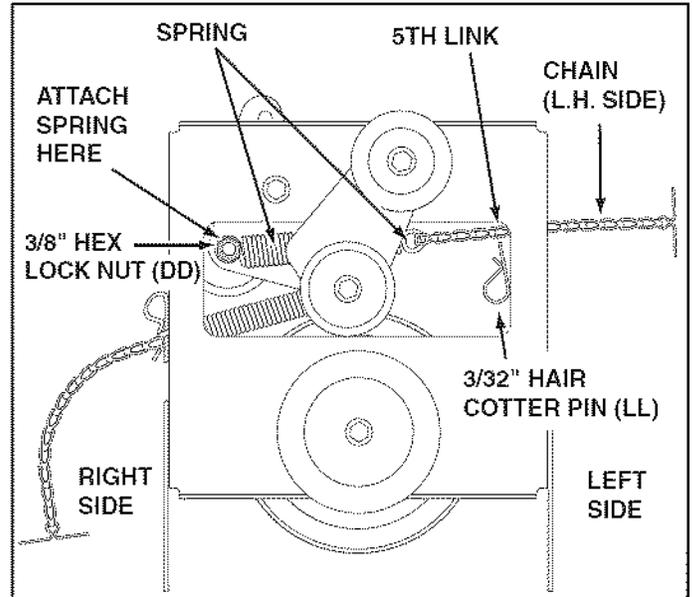

FIGURE 16 VIEW OF BOTTOM
STEP 16: (SEE FIGURE 16)
- With the clutch/idler assembly turned upside down, hook the other end of the spring onto the end of the bolt and nut which secure the idler pulley to the upper idler arm. Assemble a 3/8" hex lock nut (DD) onto the bolt and nut, leaving enough gap between the nuts for the spring to pivot freely.
- Attach a 3/32" hairpin cotter (LL) to the chain, placing it in the fifth link from the spring.